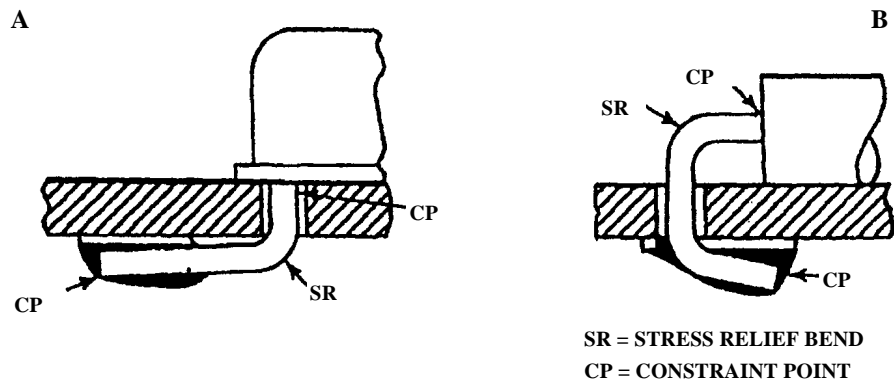

Figure 8-10. Stress Relief Part Termination
5. **Parts with Leads Terminating on Opposite Sides.** Stress relief shall be provided in the part lead between the part body and solder terminations (Figure 8-10). The lead may be terminated by clinch, straight-through, or lap configuration.